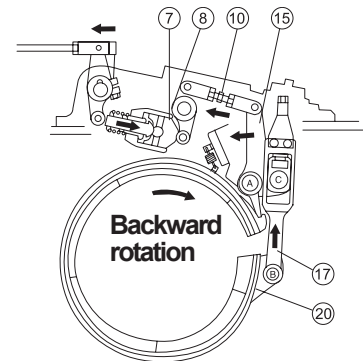

Figure 3-36
When the vehicle moves in the reverse direction, the clutch's outer drum rotates backward (See Figure 3-36), whereas lever (17), Pin B, and lever (15) move in the direction indicated in the figure, to hold the outer drum tight. But at this point, the rotation fulcrum has already been transferred Point C. The brake results of the two are basically the same.